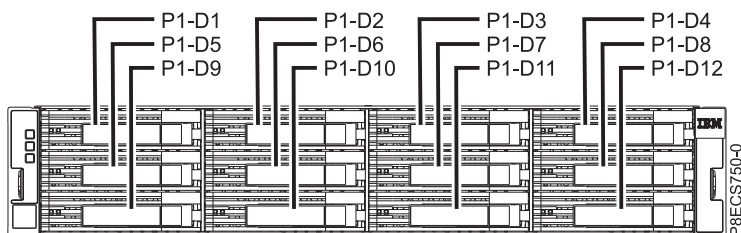
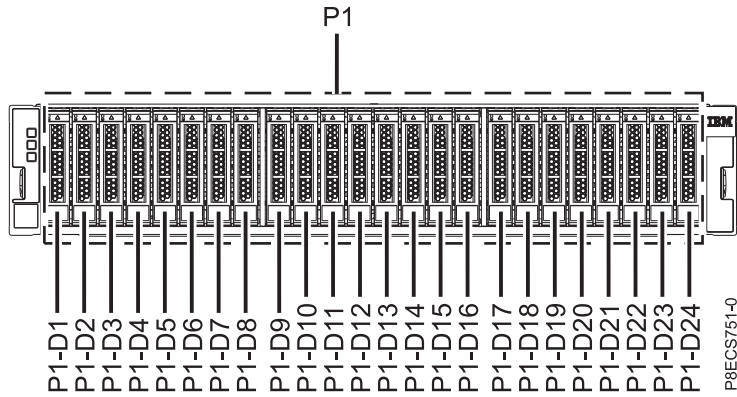
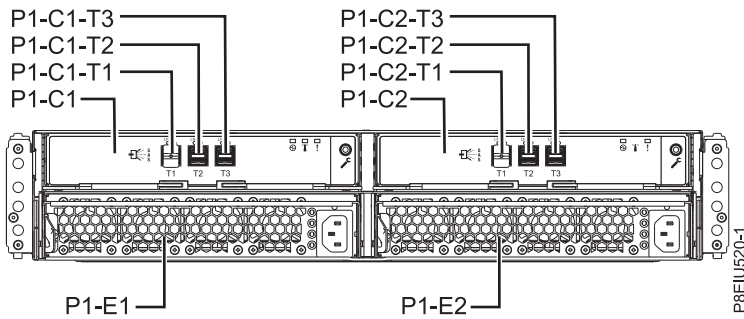
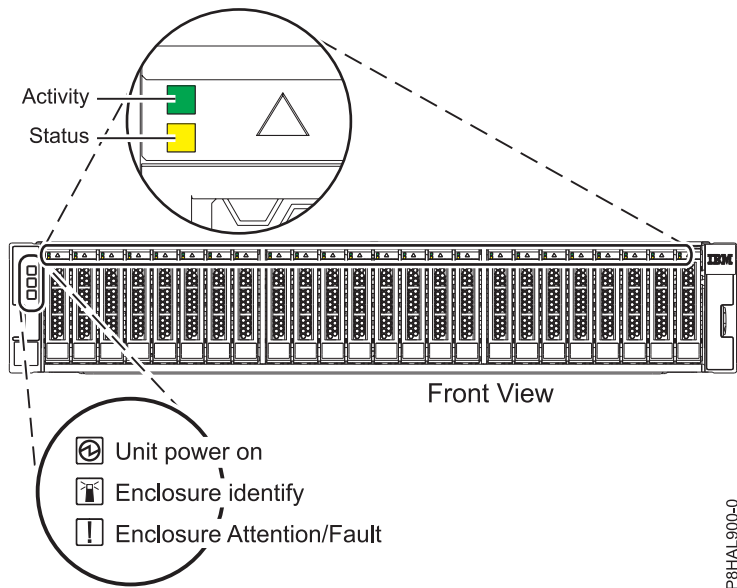

Figure 50. Front view of the ESLL storage enclosure showing the disk drive locations
Figure 51. Front view of the 5147-024 or ESLS storage enclosure showing the drive locations
Figure 52. Rear view of the storage enclosures
Figure 53. Front view of the storage enclosure showing the service indicators
1. Identify the part and the enclosure that you want to service. The disk drive and SSD slots are located in the front of the enclosure. Figure 50 shows the front of the ESLL storage enclosure, Figure 51 on page 47 shows the front of the ESLS storage enclosure, Figure 52 on page 47 shows the rear view of the storage enclosures, and Figure 53 on page 47 shows the locations of the service indicators for the enclosures.